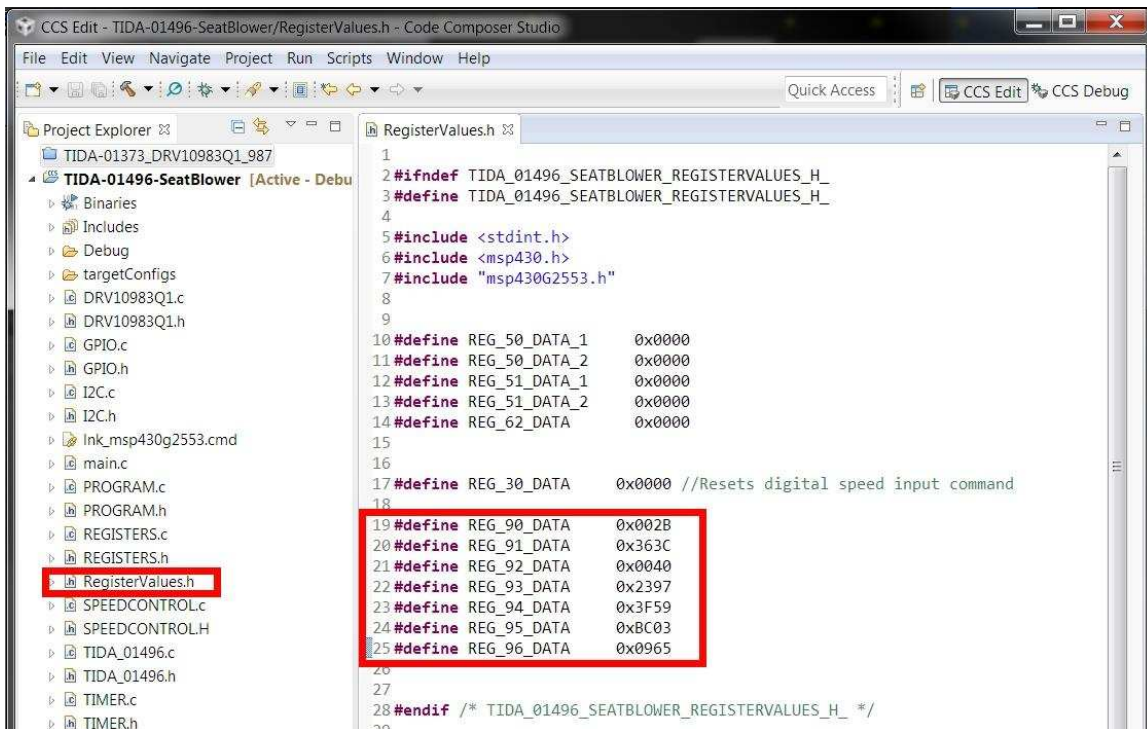

图 10. Adding Motor Configuration Settings into RegisterValues.h
4. Open the RegisterValues.h header file and place the CONFIG values in their corresponding registers as shown in 图 10.